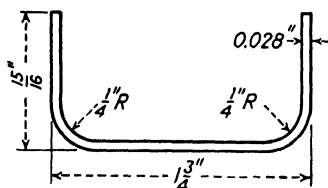

Fig. 320.—Two bends, each 90°.
86. Calculate the developed length of the part shown in Fig. 320.